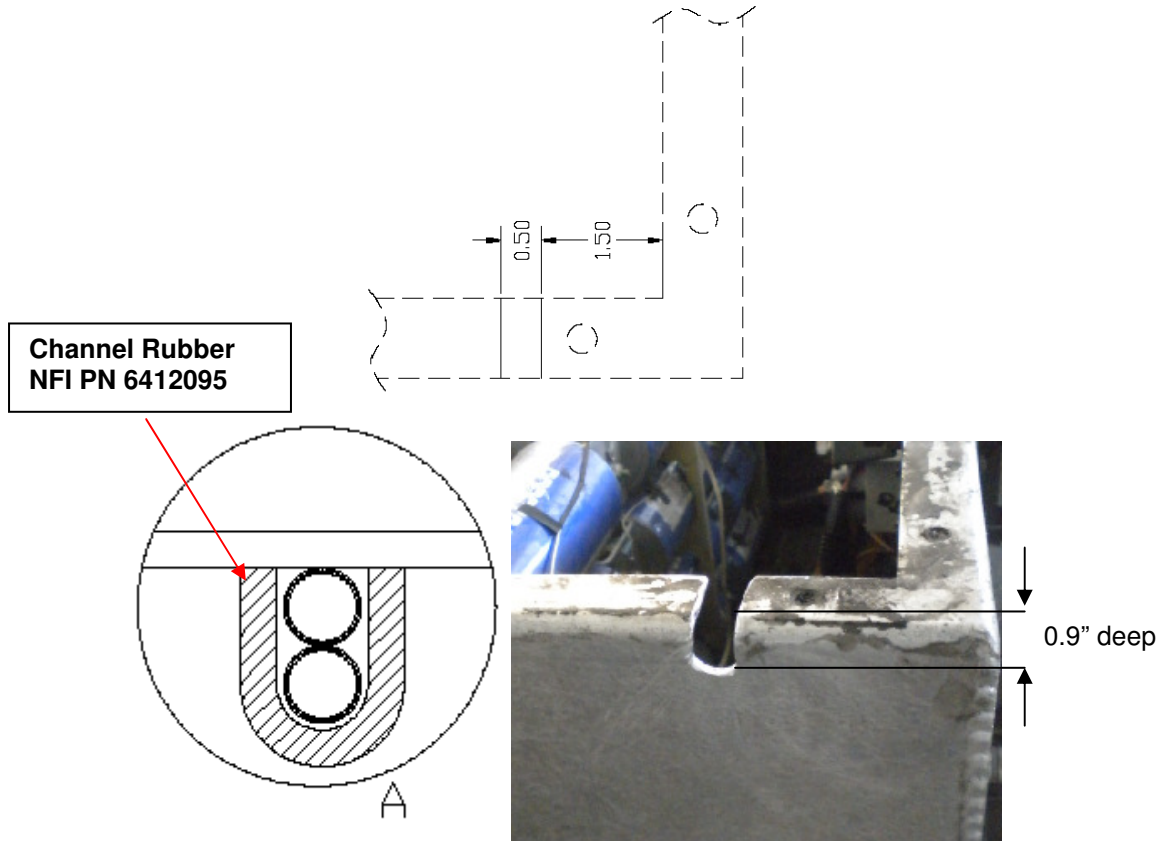

Fig 10 – Fire suppression hose and harness notch
- o. On the UCAP boxes, mark the location of the .9" deep notch for the suppression lines/harness using the dimensions outlined in Fig 10. After cutting out each notch, ensure edges are smooth and free of burrs and add rubber channel **NFI PN 6412095** to each notch.